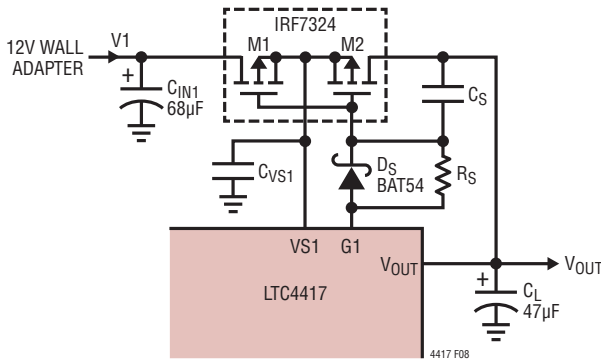

Figure 8. Slew Rate Limiting Gate Drive
Equation (13) assumes no inrush current limiting circuitry is required. If it is required, refer to Figure 8 and use the following Equation (14) for C_L .
where R_S and C_S are component values shown in Figure 8. The selection of R_S and C_L involves an iterative process. Begin by assuming $0.79 \cdot R_S \cdot C_S = 10\mu\text{s}$ and choosing C_L using Equation (14). See the Inrush Current and Input Voltage Droop section for more details regarding inrush current limiting circuitry, and for selecting R_S .
In situations where input and output capacitances cannot be chosen to set the desired maximum input voltage droop, or the peak inrush current violates the maximum Pulsed Drain Current (I_{DM}) of the external P-channel MOSFETs, inrush current can be limited by slew rate limiting the output voltage. The gate driver can be configured to slew rate limit the output with a resistor, capacitor and Schottky diode, as shown in Figure 8. The series resistor R_S and capacitor, C_S , slew rate limit the output, while the Schottky diode, D_S , provides a fast turn off path when G1 is pulled to VS1.